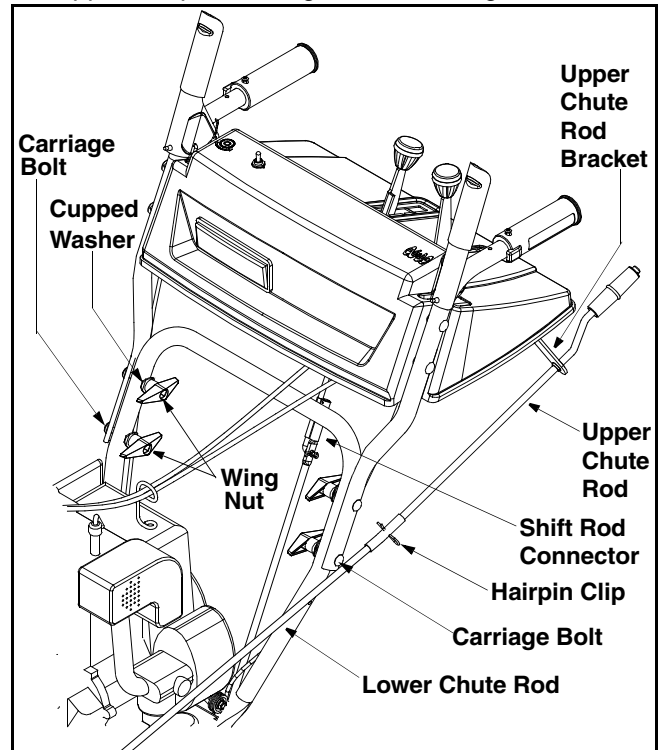

Figure 3
- Secure the upper handle and lower handle with the two plastic wing knobs, cupped washers and carriage bolts previously removed and tighten the upper two plastic wing knobs. See Figure 3.
- Slide the shift rod connector down over the end of the lower shift rod. Tap the connector until it **locks** on the lower shift rod. See Figure 3.
- Align the two holes on both chute rods and insert the hairpin clip removed earlier, through these holes. See Figure 3.